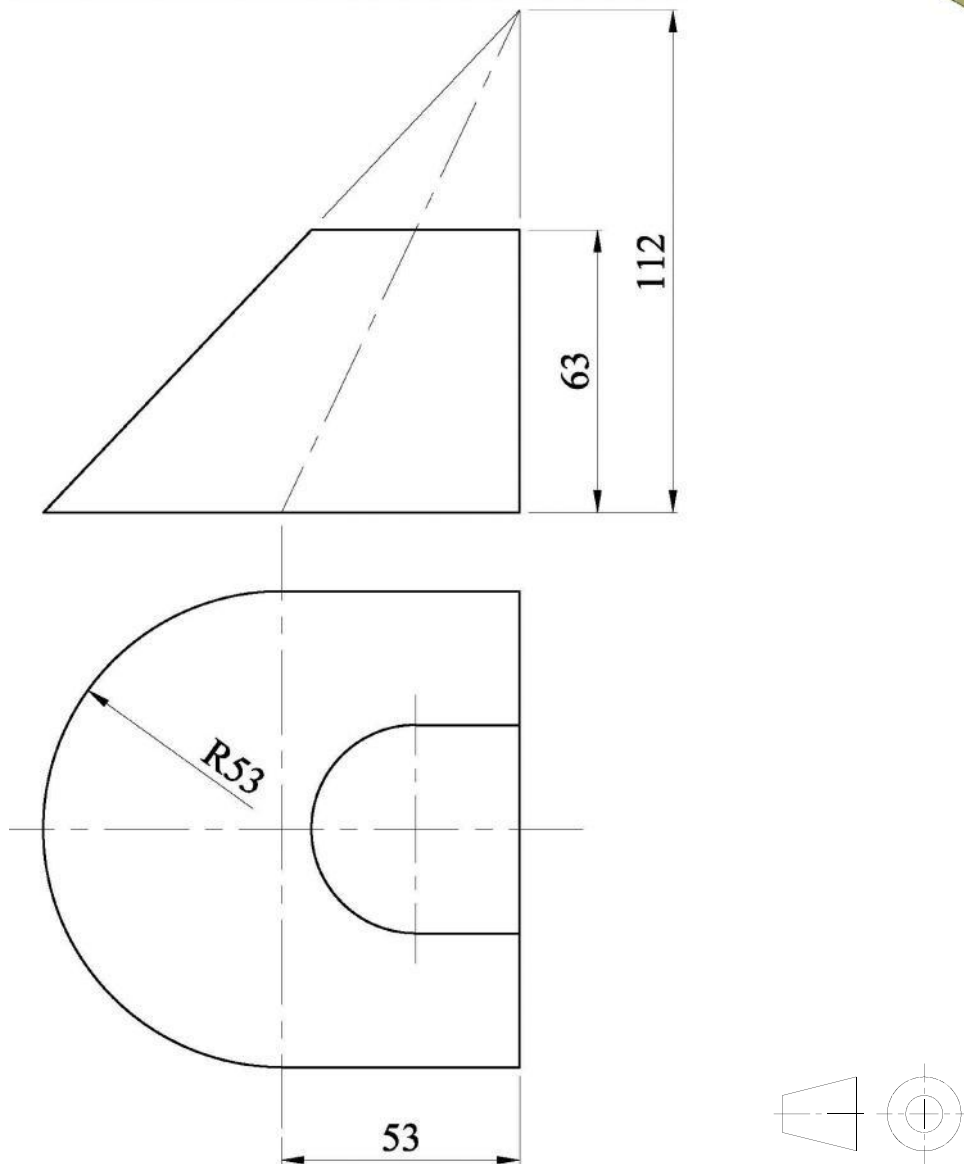

FIG. 4
- Copy full size the two elevations (views) of the hood shown in Figure 4.